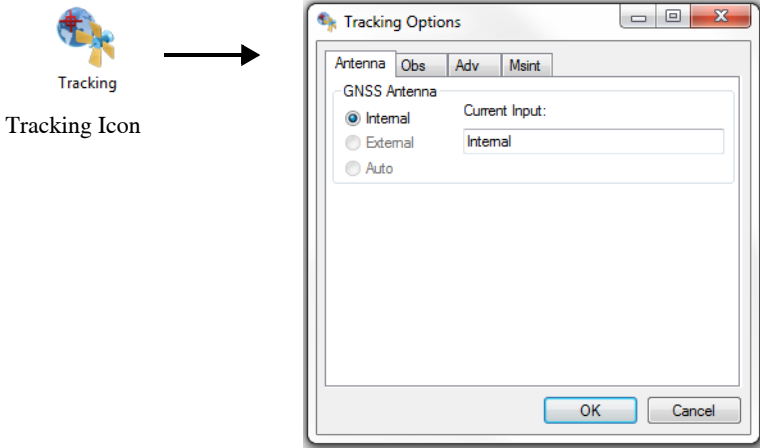

Figure 3-14. Set Antenna Parameters
2. Click on the **Tracking** icon (Figure 3-14 on page 3-18).